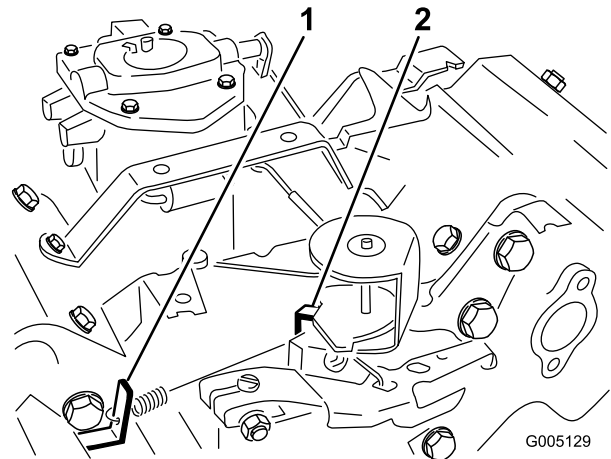

Figure 50
3. Bend the governed idle spring anchor tang (Figure 50) to attain an idle speed of 1625 ± 50 RPM. Check the speed with a tachometer.
- Move the throttle control to the Fast position. Bend the high speed spring anchor tang (Figure 50) to attain a high speed of 2850 ± 50 RPM.